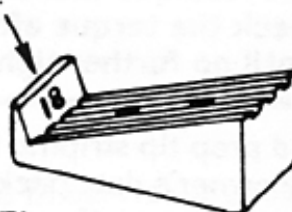

Figure 1.
3. Inspect all the pitch blocks for correct degree angles. (See Figure 1 for location of numbers.)